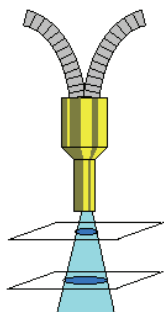

Figure 55 Sampling positions
9. Insert one of the free fibre optic ends into the left side holder, as shown in Figure 55.